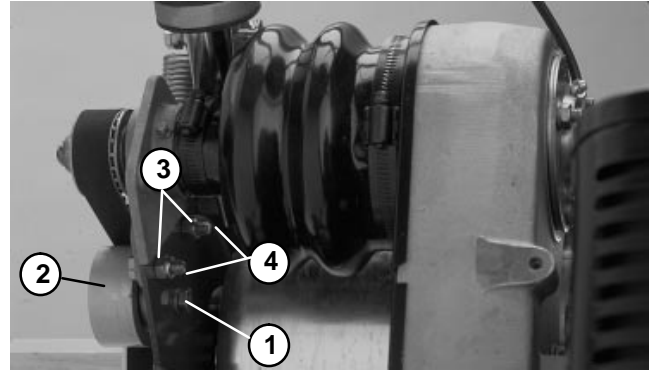
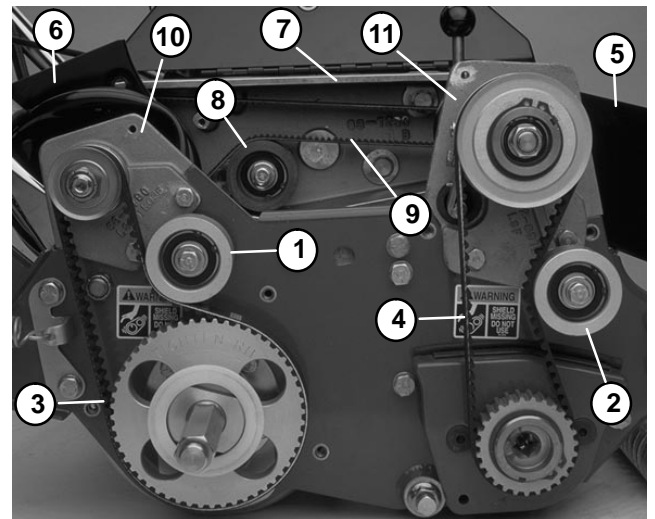

Figure 46
Figure 48
3. Loosen cap screws securing drum and reel drive idler pulleys and spacers to the right side plate (Fig. 46 and 47). Rotate each idler pulley counterclockwise away from the backside of each belt to release belt tension. Remove both belts (Fig.48).
4. Remove capscrews and lock washers securing the front and rear box covers to the counter shaft housing. Slide covers away from the housing to expose the belt (Fig. 48).
5. Loosen cap screw on the engine side of the counter shaft housing that secures the idler pulley and spacer. Rotate idler pulley counterclockwise away from the backside of the belt to release belt tension. Cut belt and remove belt from the countershaft housing (Fig.48).
6. Remove both cap screws and locknuts securing the right rear bearing housing to side plate. Rotate housing 180° so the bottom of the housing points upward (Fig. 46 and 48).
9. Rotate clutch and right rear bearing housings back into the upright position. Secure both housings to the sideplate with previously removed cap screws and lock nuts (Fig.48).